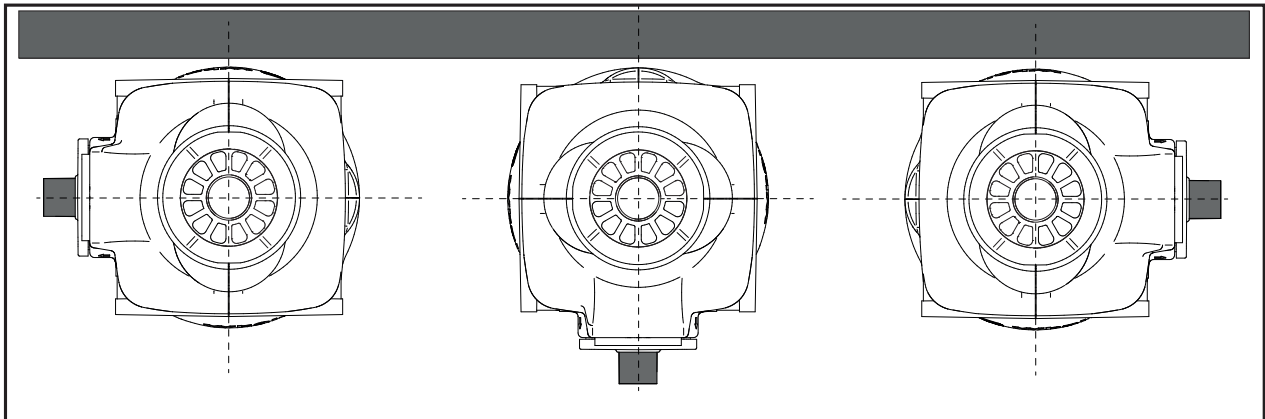

Figure 5. Heater Orientations
- Unobstructed installation to be ensured. The heater can be mounted in 1 of 3 orientations (see Figure 5).